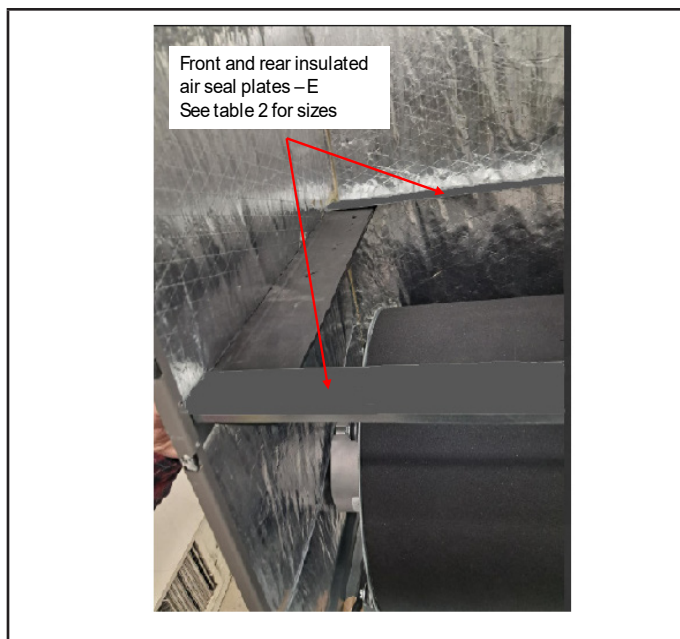

FIGURE 18.
- 2 - Position the Front and rear insulated air seal plates onto the downflow coil support brackets, ensuring that the seals seat against the sides and back of the air handler cabinet and that a seal will occur when the access panel is reinstalled (FIGURE 17 and FIGURE 18).